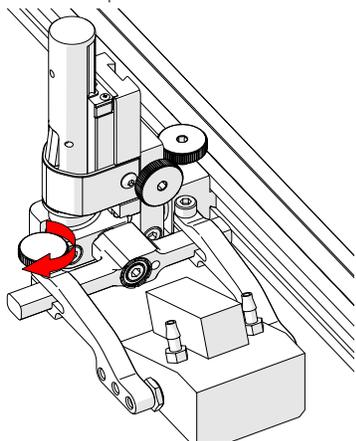

Fig. 128 - Tighten arm knob
4. Tighten the probe holder arm adjustment knob (Fig. 128).